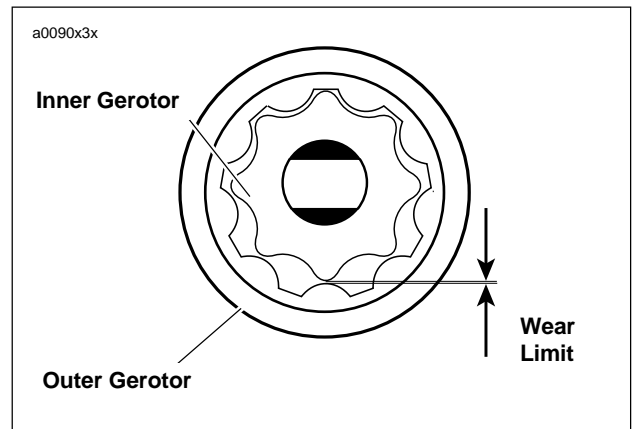

Figure 3-92. Gerotor Wear Limits
2. See Figure 3-92. Inspect both gerotor sets for wear.